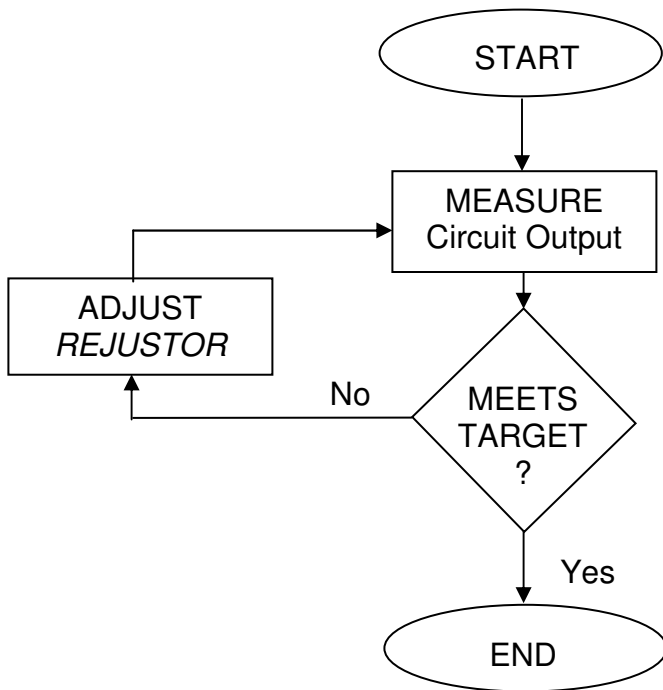

Figure 4: Rejust-it Flow Diagram
**Rejistors** can be adjusted dozens of times, where an adjust cycle may have multiple adjusting steps as shown in Figure 4. Adjusting is generally bi-directional, except within a few percent of the as-manufactured value.
An example connection between the **Rejustor** and the **Rejustor** Calibration Tool is shown in Figure 4. Note that these connections are only required during the calibration process. After adjustment, the auxiliary pins are not required and can be left open or grounded.
**Rejutor** Calibration Tools contain Analog-to-Digital Converters (ADC) which are used to measure the output of the circuit being adjusted by the **Rejutor**. They also incorporate Digital-to-Analog Converters (DAC) to provide the pulse stream to adjust the **Rejutor**. Adjusting is performed through an iterative closed loop which measures the output of the circuit-under-test then adjusts the resistance until the desired precision is achieved as shown in Figure 4.